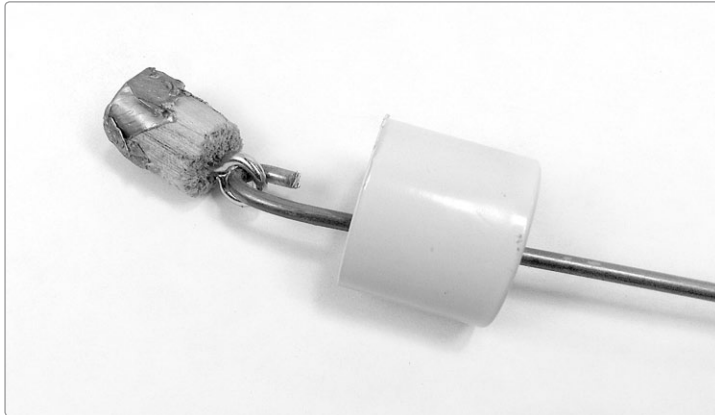

FIGURE 4-15: *The slide and piston, with end cap, ready to install*
Step 12 Now install the slide (to control the piston) and an end cap (to hold the whole mess in place). Your slide is a 16-inch length of wire coat hanger or a similar rod. Cut the longest straight section you can from your wire hanger, and you should be all set. Bend it into a hook, as shown in Figure 4-15, and connect the piston. Then, drill a hole through the center of the 1/2-inch CPVC end cap and thread the slide through. This hole will probably be around 3/32 or 1/8 inch, but hangers come in various gauges; just use the smallest drill bit that's still larger than the wire itself.